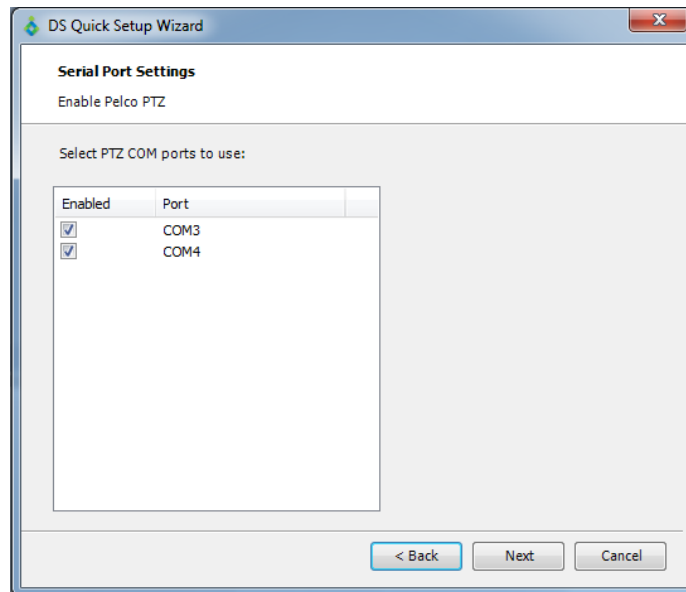

Figure 15. Serial Port Settings Dialog Box
8. The Serial Port Settings dialog box appears (refer to Figure 15 on page 16). This allows you to enable Pelco PTZ cameras on selected COM ports. There are two COM ports per encoder.